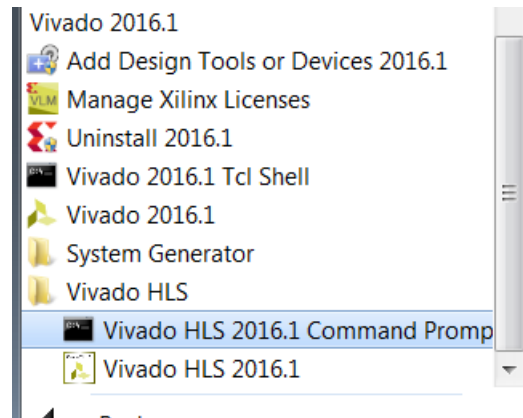

Figure 5-1: Vivado HLS Command Prompt
- a. On Windows use **Start > All Programs > Xilinx Design Tools > Vivado 2016.1 > Vivado HLS > Vivado HLS 2016.1 Command Prompt** (Figure 5-1).